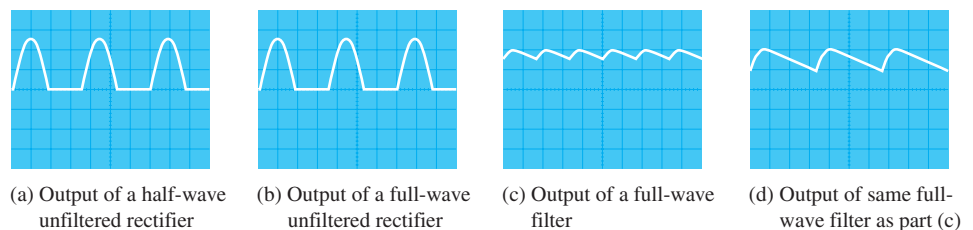

FIGURE 2–84
29. For each set of measured voltages at the points 1, 2, and 3 indicated in Figure 2–85, determine if they are correct and if not identify the most likely fault(s). State what you would do to correct the problem once it is isolated. The specs for the 1N5349 can be found at www.onsemi.com.